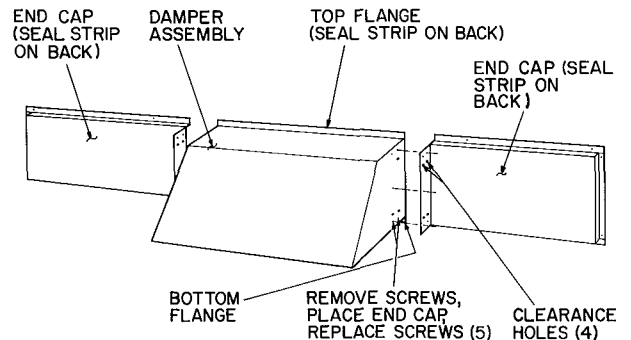

Fig. 3 — Accessory Relief Damper Details
6. Apply adhesive-backed seal strip to back side of damper assembly flanges and end cap flanges. See Fig. 3.